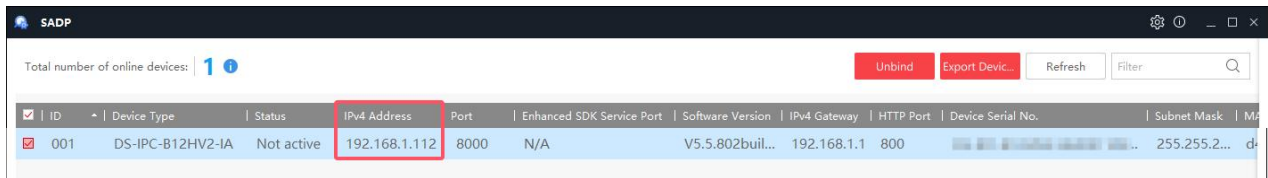

Figure 5.3
(3)Power the web camera and screen, and view the camera IP information through software on the PC. Through the supplier's supporting software to view the IP address of the camera, such as Hikvision's SADP, Dahua's Config Tool, SmartPSS Plus. Taking Hikvision as an example, the camera IP can be viewed through SADP software (the download webpage can be found by searching for "SADP" on browser). Open the SADP software and click the “Refresh” button in the upper right corner to view the IP address of the online device(Figure 5.3). If the device cannot be found, please check if the IP is available first. If using WLAN connection, please confirm that the network bandwidth is 2.4G.